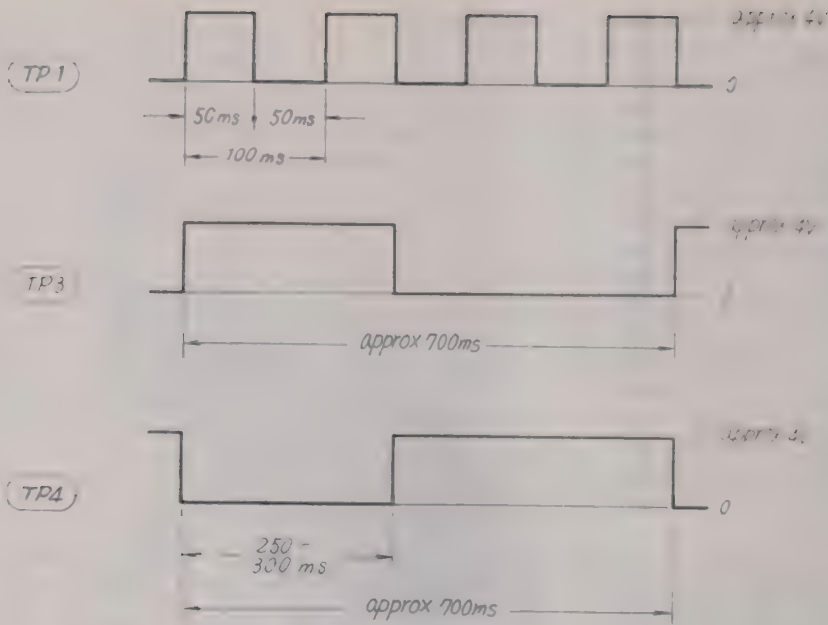

Fig. 2-8 Waveforms of TP1, TP3 and TP4
1. After the above procedure, remove test card (2), and engage the A/D CONVERTER Ass'y with J105 by way of the 44P extender board (Type 2503-P44).
3. Connect the oscilloscope between test points (TP1) and (DIG.COM). Confirm that a 10-Hz square wave is observed as shown at (TP1) of Fig. 2-8.
4. Then observe a waveform between (TP3) and (DIG.COM). Confirm that it is a square wave of approximately 1.5 Hz as illustrated at (TP3) of Fig. 2-8:
- Observe a waveform between (TP4) and (DIG.COM). Confirm that it is a square wave having a zero level with duration of 250 to 300 ms as illustrated at (TP4) of Fig. 2-8.